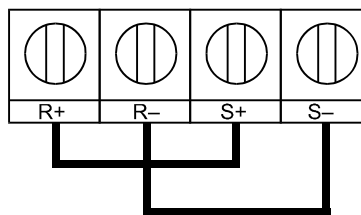

Fig D.3 RS-485 Communication Connection
3. When using RS-485 communication, connect S+ to R+, and S- to R-, on the control circuit terminal board. See Fig D-3 below.